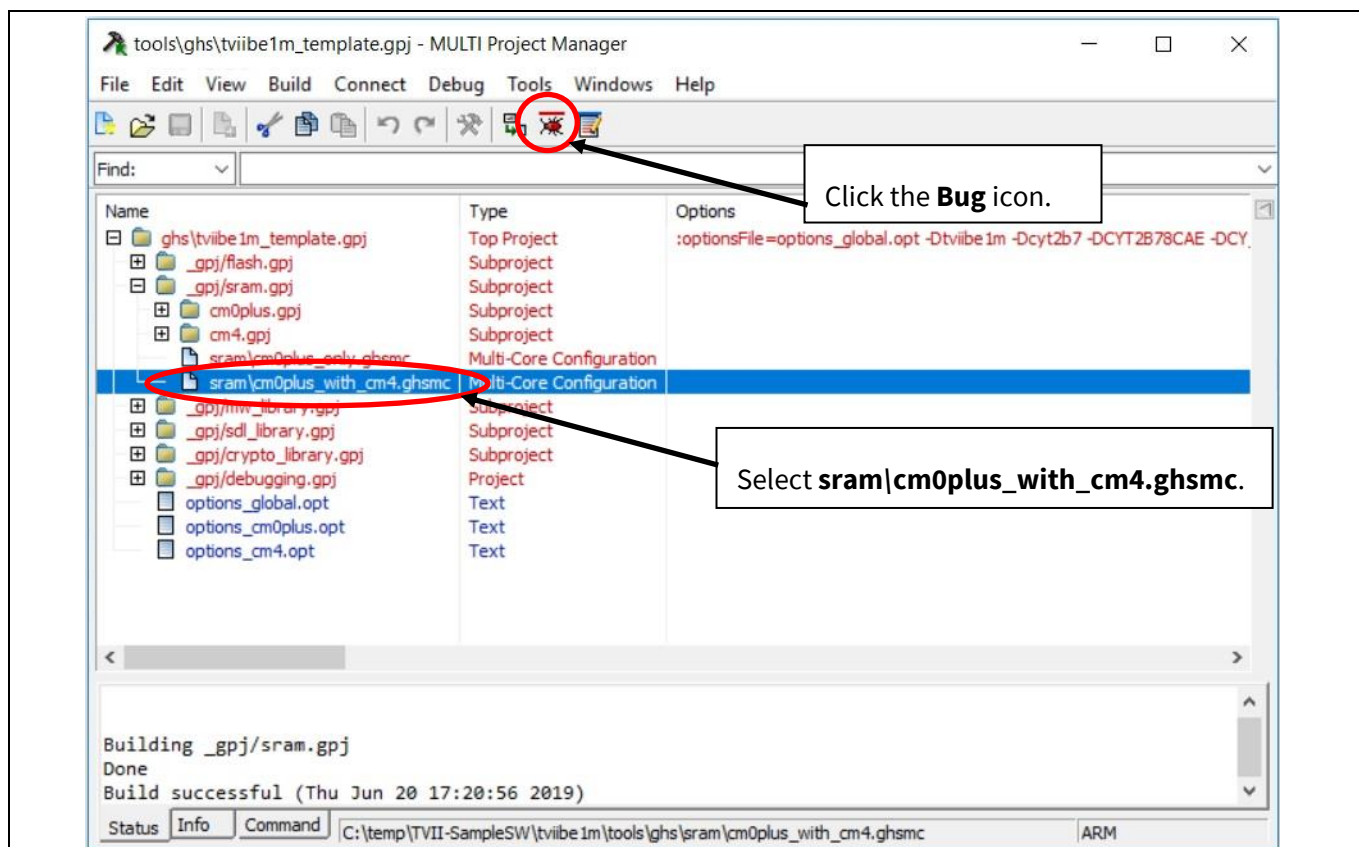

Figure 10 Debug the project of SDL project
1. For execution on the RAM, select `sram\cm0plus_with_cm4.ghsmc` and click the **Bug** icon as shown in Figure 10. Debugging of the program on the RAM begins.